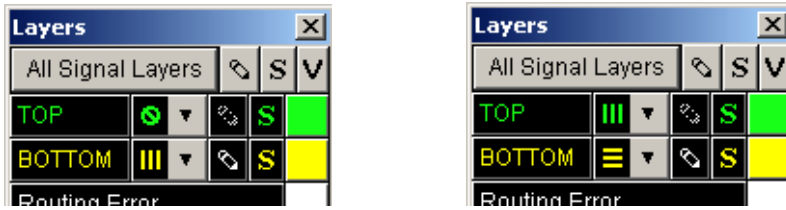

Figure 16. Settings in the Layers box for single-sided routing on the bottom layer and double-sided routing on both layers.
3. We must now tell SPECCTRA to route only the bottom layer. Choose `View > Layers...` from the menu bar. Turn routing off for the top layer by clicking on the drop-down menu next to TOP as shown in figure 16 on the next page and selecting the \odot symbol. You might like to experiment with the setting of the BOTTOM layer. The directions are hints to the router but in practice tracks will be drawn in both directions. Click Close when you have finished.
1. If the routing has almost worked (only one or two unrouted segments), try changing the hints given to the router. For the one-sided board there is only the suggested direction of tracks in figure 16. It is best to unroute the board and begin afresh. Choose **Edit > Delete Wires > All Wires** from the menu bar of SPECCTRA or reload the previous version of your board in PCB Editor.